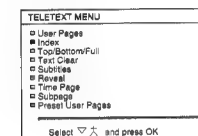

Fig. 41
- 2 Using  $\Delta$ + or  $\nabla$ -, select the teletext function you want and press OK. (See Fig. 41)